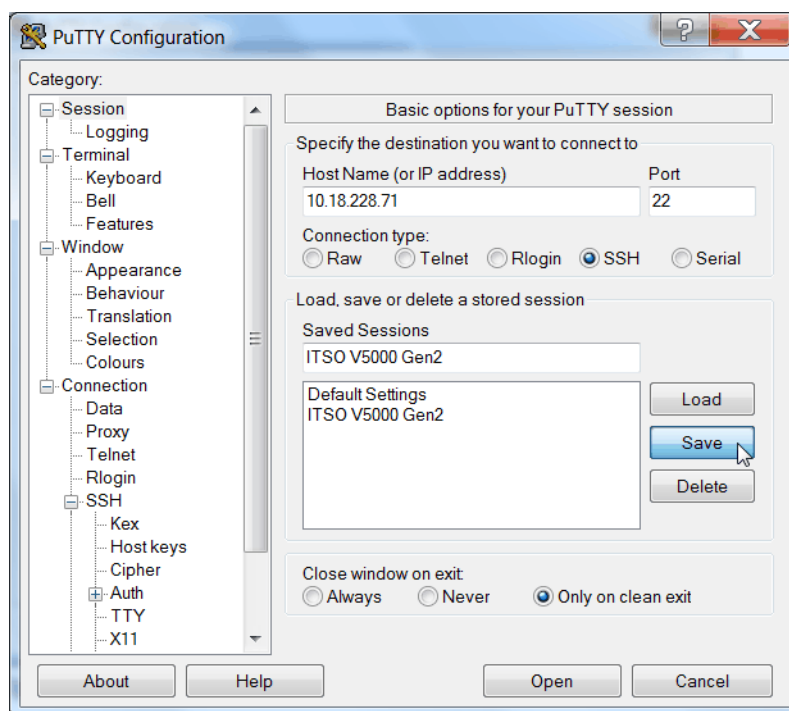

Figure A-17 Save the new session
6. Click **Save** to save the new session (Figure A-17).